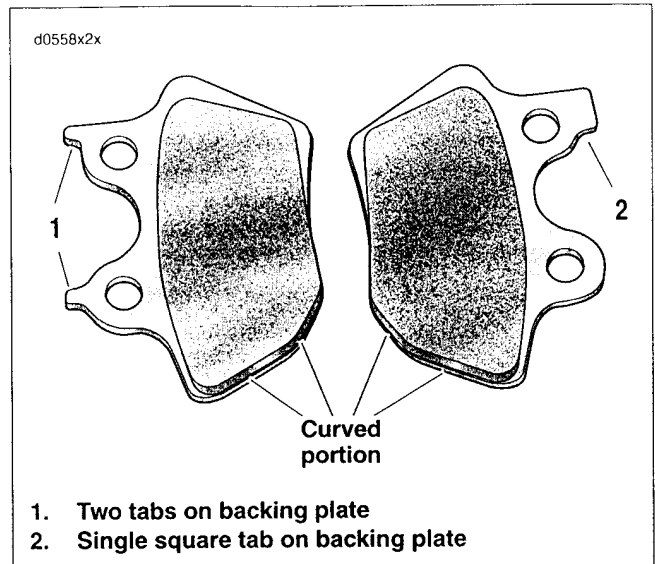

Figure 2-84. Brake Pad Alignment
See Figure 2-84. The front left, front right (not present on all vehicles) and rear brake calipers use the same exact brake pad set. Install pad with two tabs (1) on the inboard side of the rear caliper.